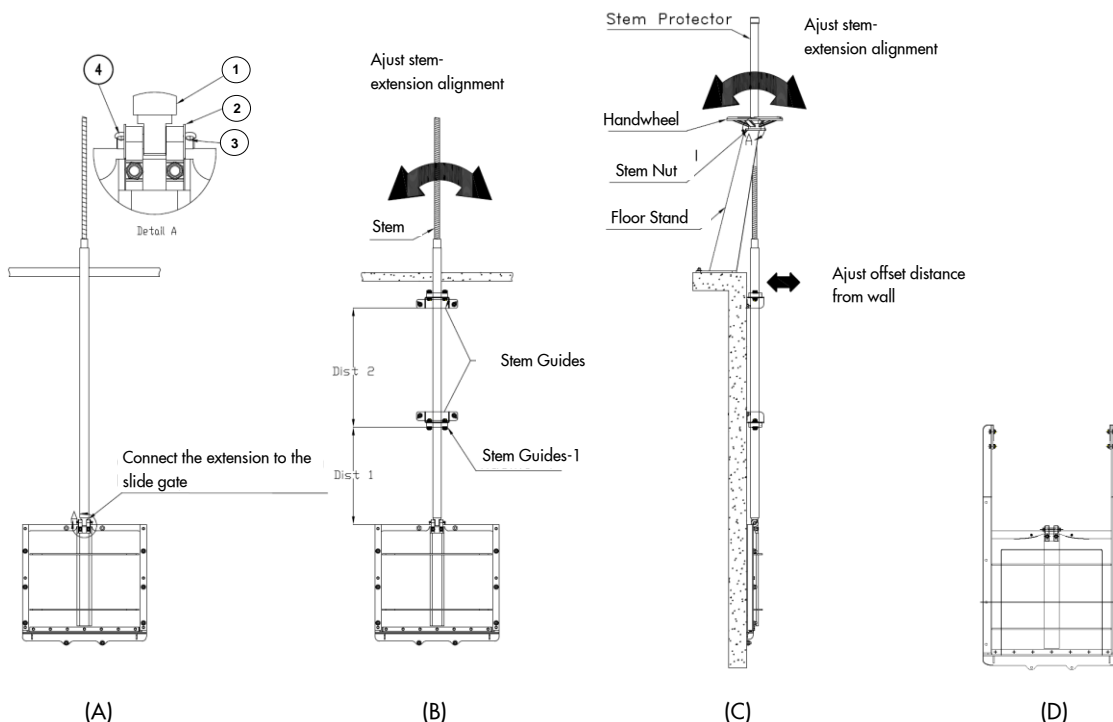

Figure 9
1. Connect the stem extension to the slide gate (Figure 9-A and Detail A). Connect the stem extension (item 1) using the pin (item 4) In order to be able to do so, the washer (item 2) and the cotter pin (item 3) shall be removed and re-installed
3. Next, install (drill and tighten anchor bolts) all stem guides except the first one (see Figure 9-B, "Stem Guide-1"). Refer to General Arrangement Drawing for dimensions Dist-1 and Dist-2 (see Figure 9-B).
5. Position the floor stand and the operator. Engage the stem in the stem nut and turn the pedestal and the operator to bring it to the operating floor level. Make sure that the stem extension is perfectly aligned and parallel to the wall surface, adjusting the offset if necessary, of the 'Stem-Guides' (U)HMWPE inserts. Once the stem extension is perfectly aligned, install the floor stand (drill and tighten anchor bolts)
6. Operate the slide gate and bring it to the open position. Install "Stem Guide-1", so the top of the slide hits on the stem guide. Note that "Stem Guide-1" is installed in the orientation shown in figures 9-B and 9-C ((U)HMWPE insert down). Some other models incorporate extended frame, which also works as mechanical stop for the OPEN position (see Figure 9-D). In any case, consult the GAD